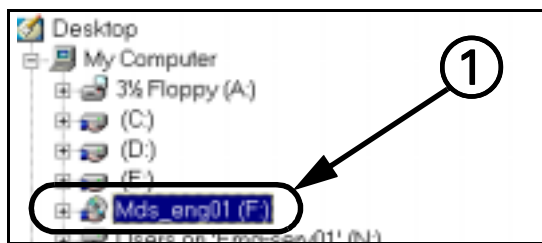

Figure 14-9 Windows Explorer
5. Verify graphic of hand below drives icon (see ① in Figure 14-9).